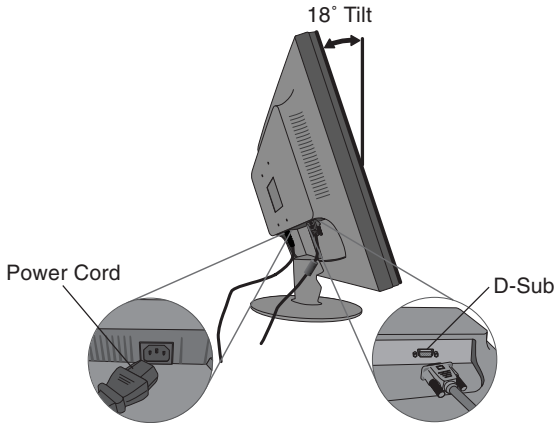

Figure B.1
3. Connect one end of the power cord to the monitor and the other end to the power outlet (**Figure B.1**).